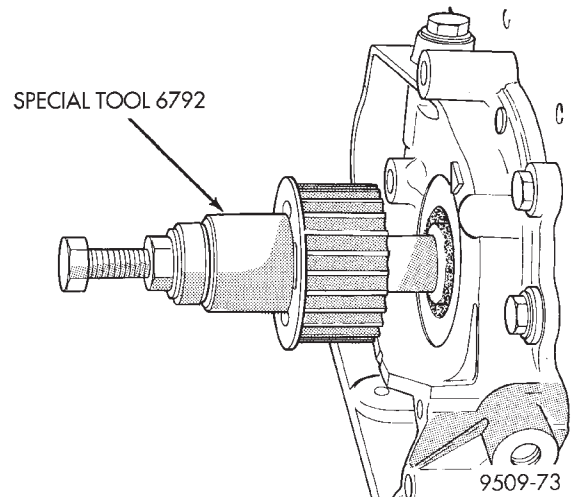

Fig. 95 Crankshaft Sprocket—Installation
(3) Install crankshaft sprocket (Fig. 95). Using Special Tool 6792.